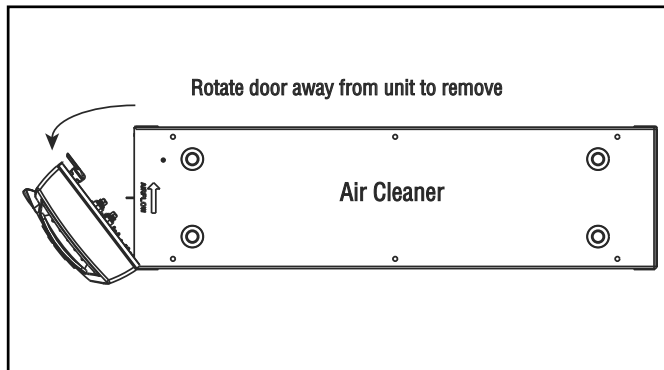

Figure 11 Door Rotation
**Step 2:** Rotate the door to fully remove from the air cleaner. See Figure 11.